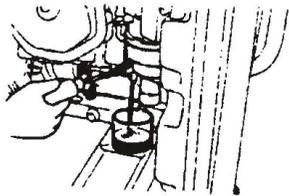

Figure 46
2.3 Remove the spark plug and pour into the cylinder a spoon of engine oil, pull the recoil start slowly to distribute the oil evenly. (Figure 46)